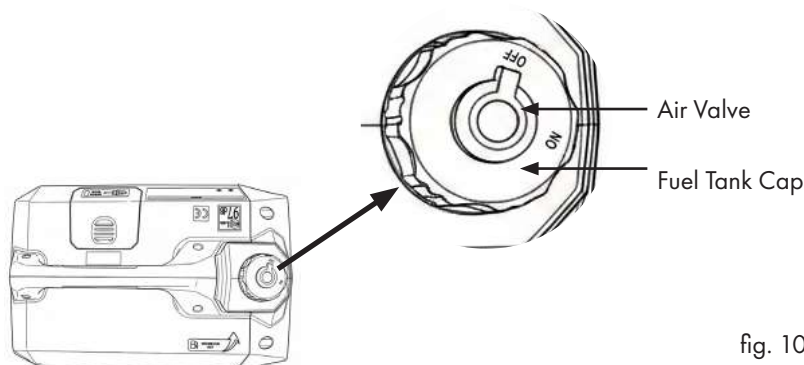

fig. 10
- Move air valve on fuel tank cap into ON position to allow the air to get inside of fuel tank. See fig.10.